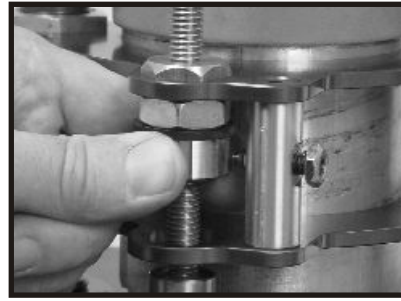

FIG. 6
3. Then rotate the brass tensioning collar (Fig. 6) with vertical grooves, so it tightens against the rubber washer. Note: a drop of oil on the rubber washer eases the rotation of the brass collar.